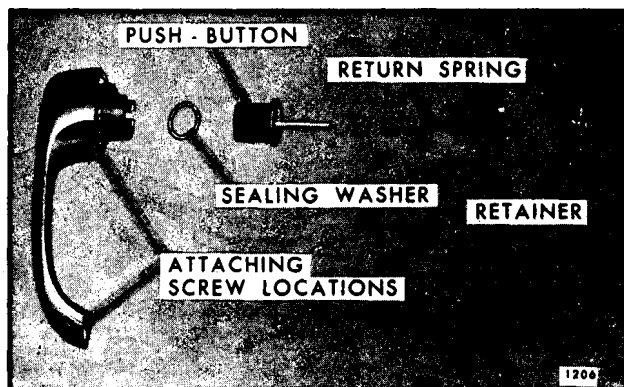

Fig. 6-21-Front Door Outside Handle - Push-Button Handles ("A and X" Styles Shown, Other Styles Similar)
2. Depress retainer slightly and rotate 1/4 turn in either direction. Remove retainer, spring, push button and shaft and sealing washer from handle (refer to Figure 6-21).
NOTE: "B and C" style rear door handle push buttons, springs and retainers are serviced as an assembly. The die cast handle is serviced separately. Front door handle components are serviced separately as shown in Figure 6-21. Lift-bar, "bail" pull-out and "flush" pull-out handles are serviced as an assembly.